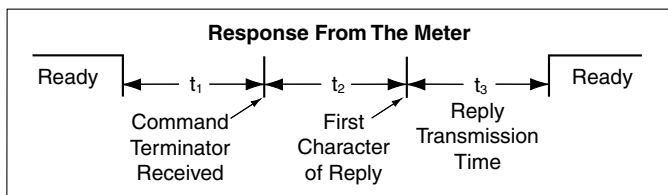

Figure 7 – Timing Diagram
See Figure 7. At the start of the time interval t_1 , the sending device (PC) prints or writes the string to the com port, thus initiating a transmission. During t_1 the command characters are under transmission and at the end of this period the command terminating character is received by the meter. The time duration of time interval t_1 is dependent on the number of characters and baud rate of the channel: